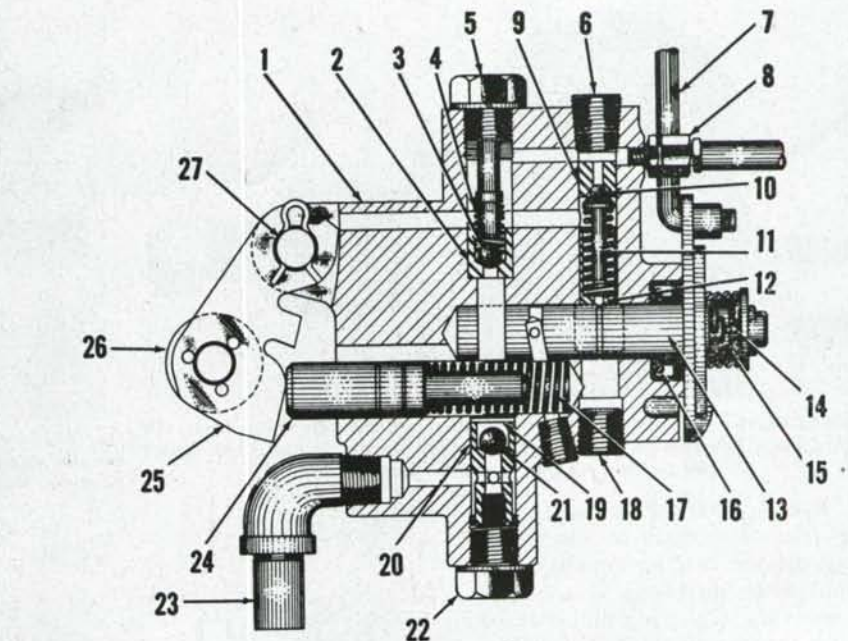

Fig. AC160—Models B, and C power lift hydraulic pump which is of the two plunger type. Pump is mounted on right side of accessory units housing.
Plungers can be lifted out of their cylinders after removing the cam arm pins (27)—Fig. AC160 or AC161) which are retained by hair pin locks.